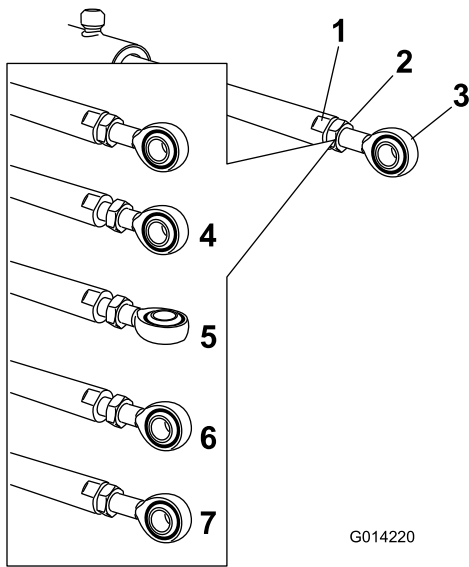

Figure 119
5. Hold the actuator rod at the flats of the rod using a wrench, then loosen the jam nut (Figure 119).
- Turn the rod end in the actuator rod to shorten or lengthen the extended actuator to the desired position (Figure 119).